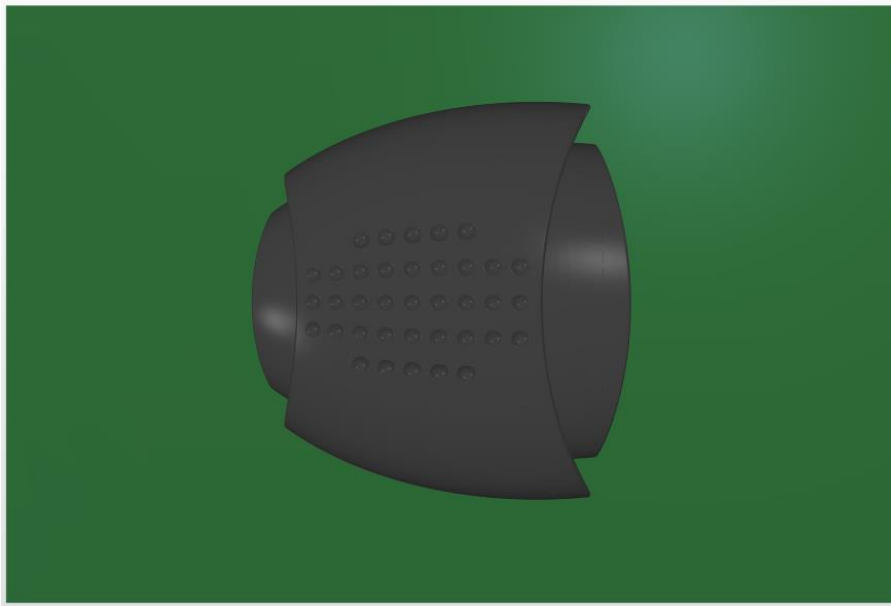

Figure 2. 3D View of Placed STEP Assembly
13. Switch to the 3D view by pressing the **3** key on the keyboard. You will see the added 3D model as shown in Figure 2 below.